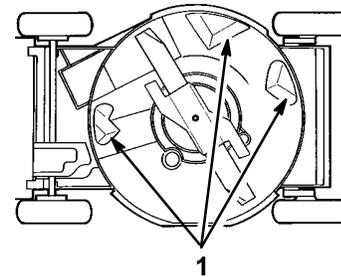

Figure 26
To ensure best performance, keep the underside of the mower housing clean. Be especially careful to keep the kickers free of debris (Fig. 26).
3. Tip the mower on its left side (Fig. 26).